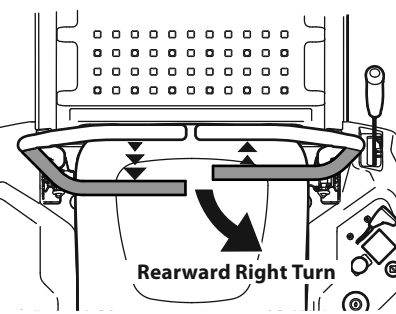

Figure 30
2. To turn to the right while traveling in reverse, move the right drive control lever forward of the left drive control lever. See Figure 30.